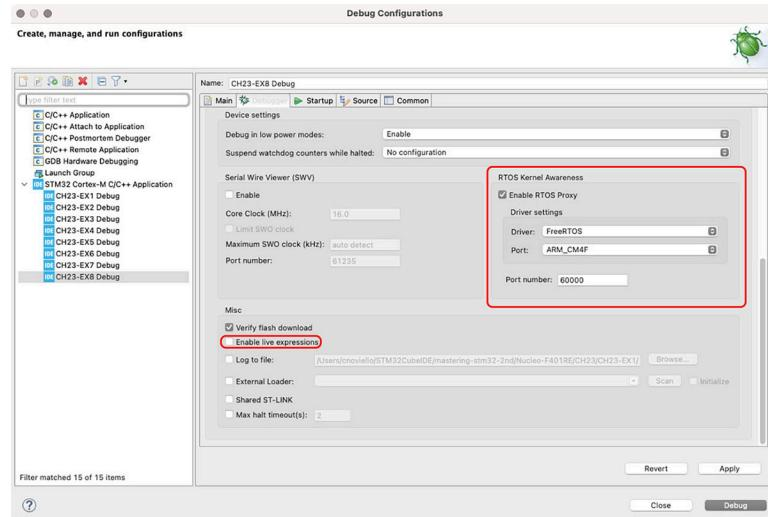

Figure 23.25:
The Kernel-Aware debugging requires a dedicated support from the debugger, with a special proxy daemon spawned automatically by the STM32CubeIDE. To enable the FreeRTOS-kernel-aware debugging the Debugger tab in the Debug Configurations dialog contains settings to enable RTOS proxy, as shown in **Figure 23.25**. Once the **Enable RTOS Proxy** flag is checked you have to select the driver for FreeRTOS and the Cortex-M core corresponding the target MCU. It is strongly suggested to leave the port number to 60000.
- Live expressions must be disabled when used with the ST-LINK GDB server (see **Figure 23.25**).